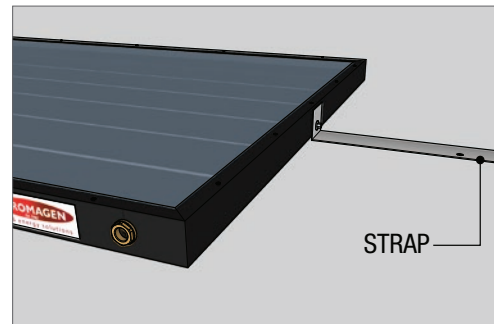

Fig 7
8. Secure the TOP strap/s to the top horizontal section of the collector with the screws supplied (Fig 7). NOTE. Do not use longer screws than those supplied or the copper header pipe in the collector may be pierced, causing leaks